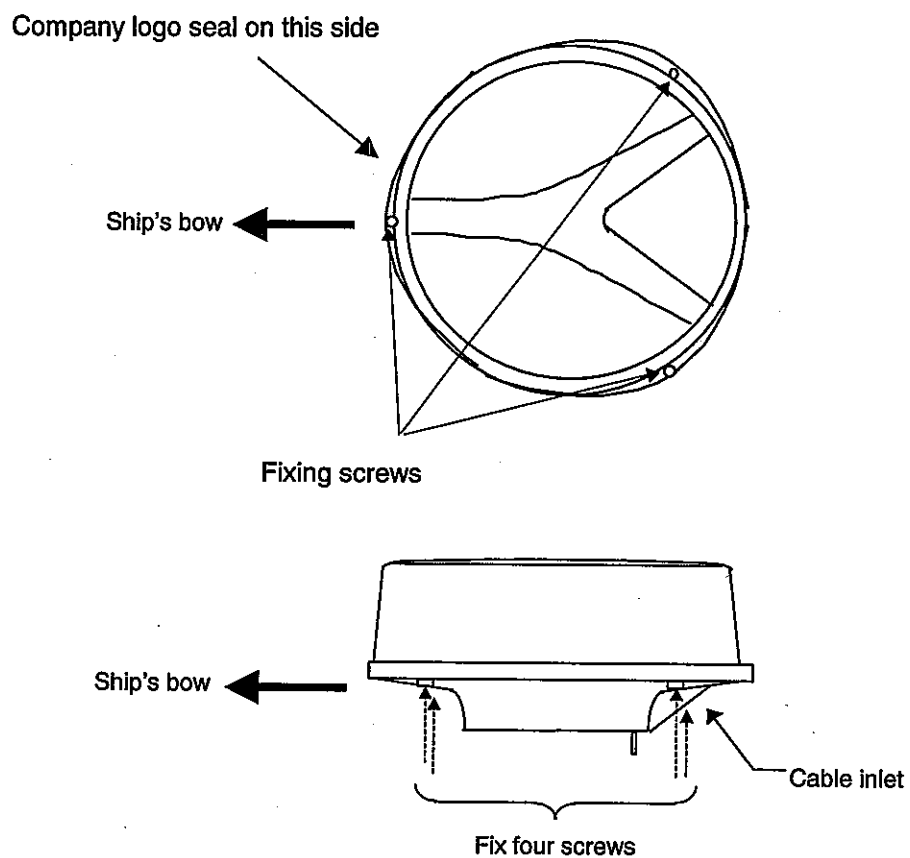

Figure 2.9 Fitting the cover (Radome antenna)
- 7) Replace the upper part of the radome, being careful not to bump it against the antenna. Make sure that the cover is positioned in the correct direction as shown in Figure 2.9. The upper and lower parts of the radome each have three alignment markings indicating screw positions.